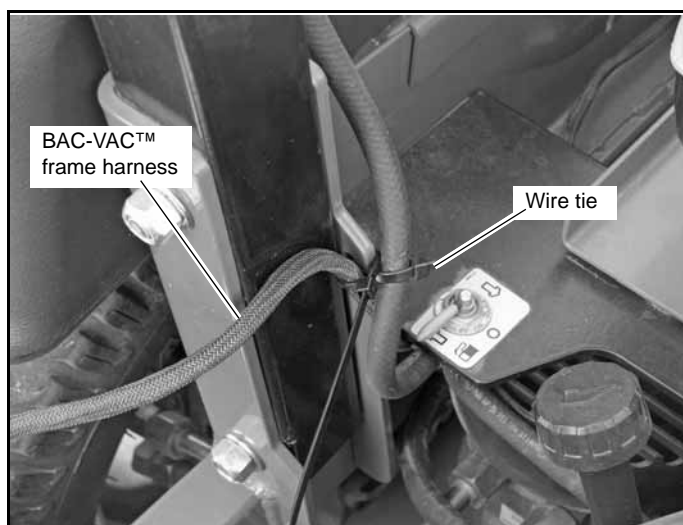
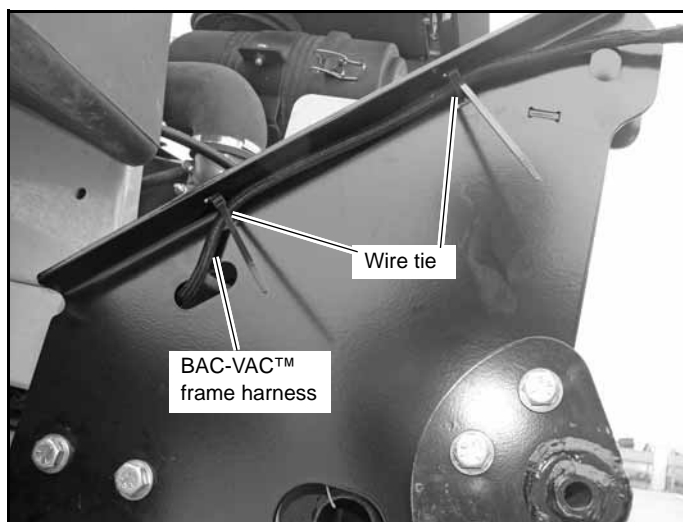

Figure 3-17
Figure 3-18
11. Route the BAC-VAC™ frame harness along the left side of the mower frame as shown. Secure the harness to the mower using the wire ties as shown. Figure 3-17 & Figure 3-18